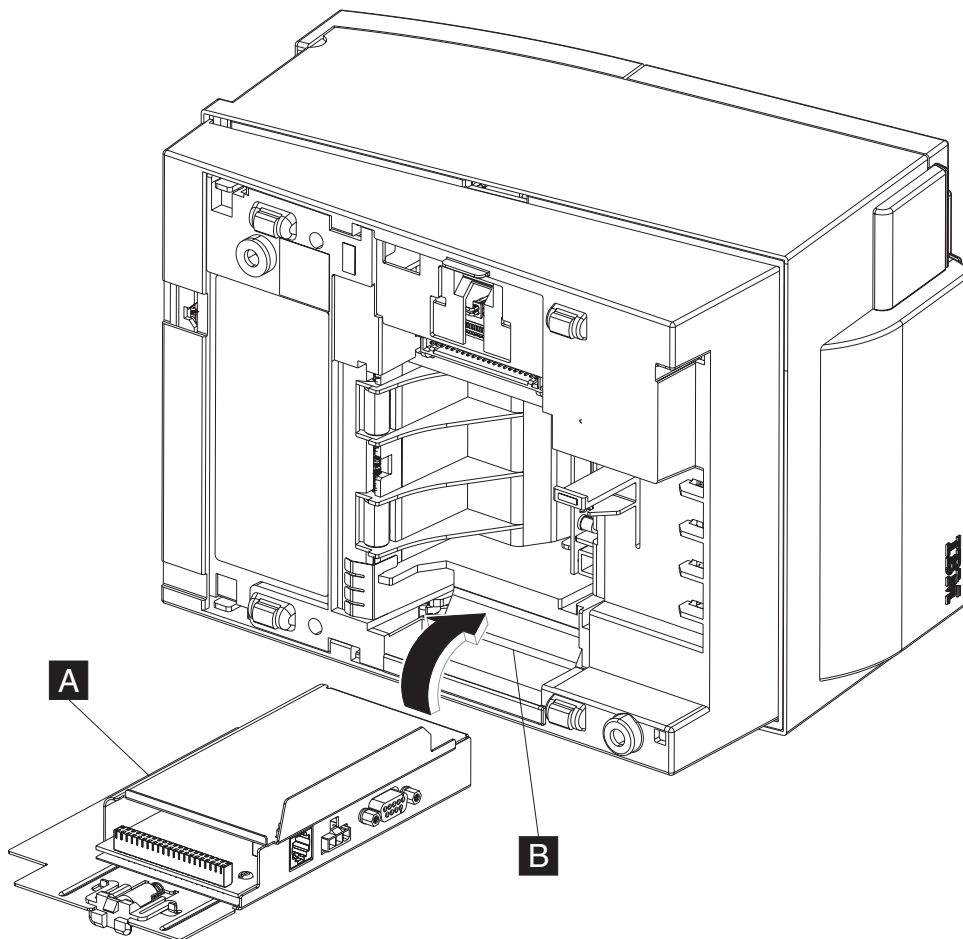

Figure 8. Installing the interface card
1. As shown in Figure 8, place the printer unit on one side.